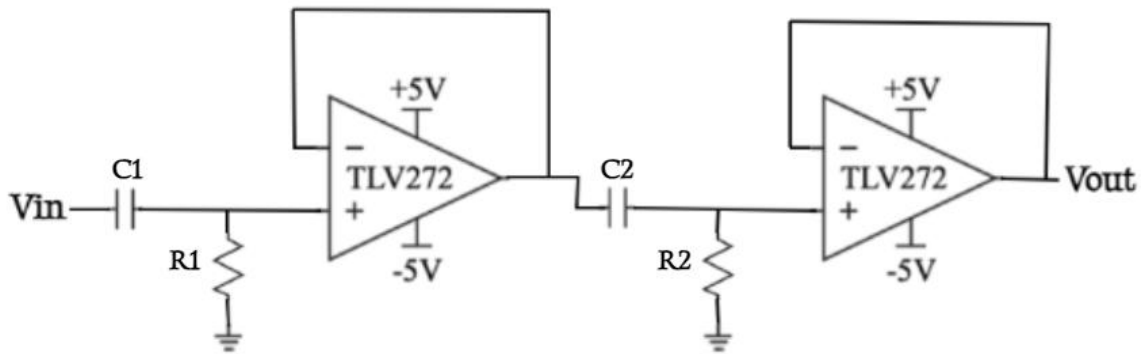

Figure 8.4: An example topology of a cascaded RC high-pass filter.
4. Build cascaded RC highpass filters as shown in Figure 8.4. Choose resistor and capacitor values from your parts kit to attenuate 240Hz noise. Note you should have the same resistor and capacitor values in both stages of the filter, meaning R_1 should be the same as R_2 and C_1 should be the same as C_2 . In the first stage of the filter 240Hz should be attenuated by at least -3dB, and in the final output, the attenuation should be double of the first stage. Table your resistor and capacitor values as well as the expected attenuation at 240Hz in each stage. Set the voltage source to an AC amplitude of 1 and run an AC analysis with the following settings: Decade, 100, 1, 100k. When plotting the bode plots, display the output of the first stage and the second stage on the same plot. Add a cursor to each plot trace to clearly show the attenuation at 240Hz. Save an image of the circuit and a plot of the output. (You can use the following links to determine what resistors and capacitors you should choose: <https://www.calculator.net/resistor-calculator.html>, <https://www.digikey.com/en/resources/conversion-calculators/conversion-calculator-low-pass-and-high-pass-filter>)